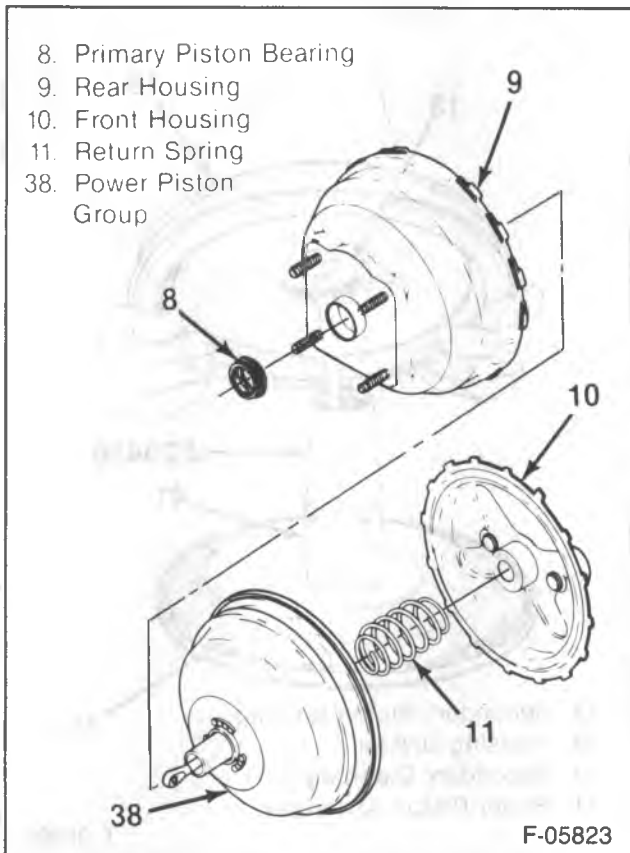
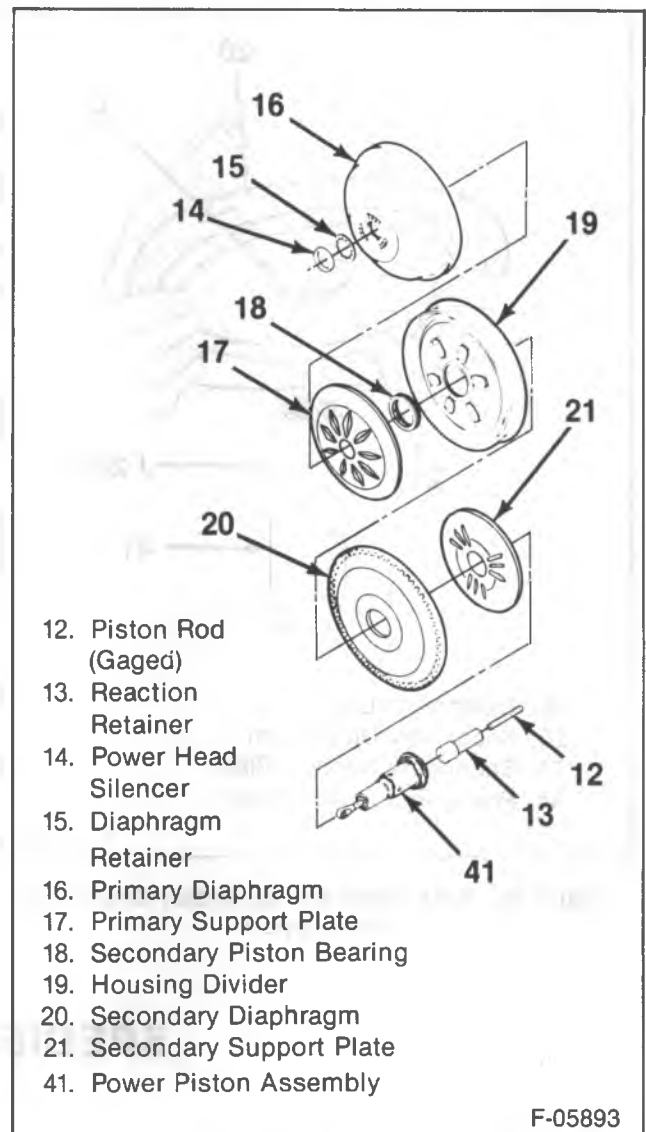
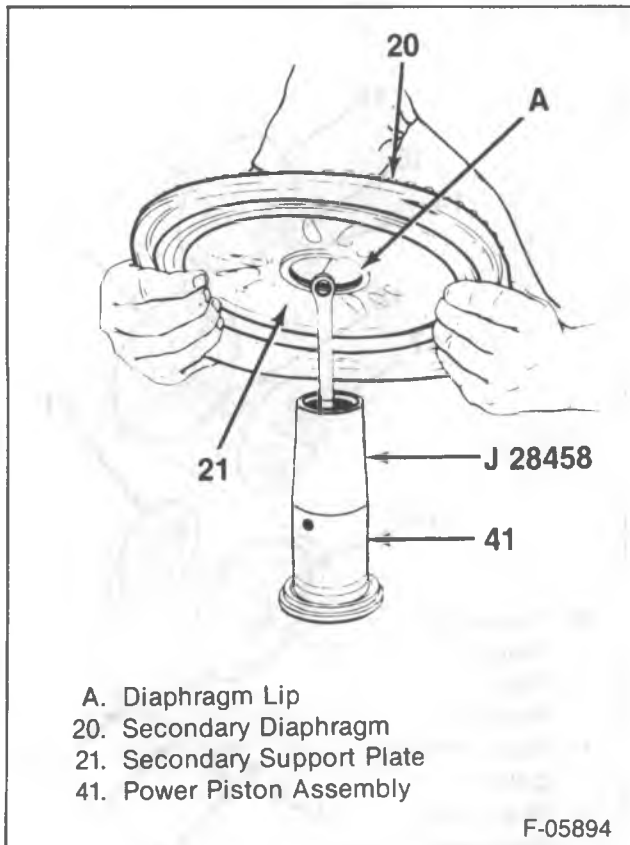

Figure 26—Booster Inner Components
Figure 27—Power Piston Group
Figure 28—Assembling the Secondary Diaphragm and Support
4. Return spring (11) and power piston group (38) (figure 26).
5. Primary piston bearing (8) from the rear housing (9).
6. Piston rod (12), reaction retainer (13) and power head silencer (14).
7. Power piston assembly (41) along with the pushrod (32) (figure 27).
- Grasp the assembly at the outside edge of the housing divider (19) and diaphragms (16 and 20).
- Hold with the pushrod (32) down against a hard surface.
- Use a slight force or impact to dislodge the diaphragm retainer (15).
8. Primary diaphragm (16) and primary support plate (17) from the housing divider (19).
9. Primary diaphragm (16) from the primary support plate (17).
10. Secondary diaphragm (20) and secondary support plate (21) from the housing divider (19).
11. Secondary piston bearing (18) from the housing divider (19).
12. Secondary diaphragm (20) from the secondary support plate (21).
13. Reaction body retainer (24).
14. Reaction body (25).
1. Lubricated O-ring (31) onto the air valve pushrod assembly (32).
2. Air valve pushrod assembly (32) into the power piston (41).
3. Retainer (30) and seat.
4. Filter (29) over the pushrod eyelet and into the power piston (41) (figure 27).
5. Retaining ring (28) onto the air valve pushrod assembly (32).
6. Reaction bumper (27) and air valve spring (26).
7. Reaction piston (23) and reaction disc (22) into the reaction body (25).
8. Reaction body (25).
9. Reaction body retainer (24).
- Lubricate the inside diameter of the secondary diaphragm (20) lip, inside diameter of the primary diaphragm (16) lip and the secondary piston bearing (18) with a thin layer of silicone grease.
10. Secondary diaphragm (20) into the secondary support plate (21).
11. Secondary diaphragm (20) and support plate (21) over the power piston assembly (41) and pushrod (32) (figure 28).
12. Secondary piston bearing (18) into the housing divider (19) with the flat surface of the bearing on the same side as the six raised lugs on the divider.